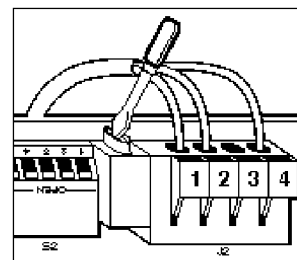

FIGURE 10
2. Locate manual temperature and/or cell constant adjustment potentiometer on daughter board. See Figure 10 and refer to Diagram 5, pg. 27.